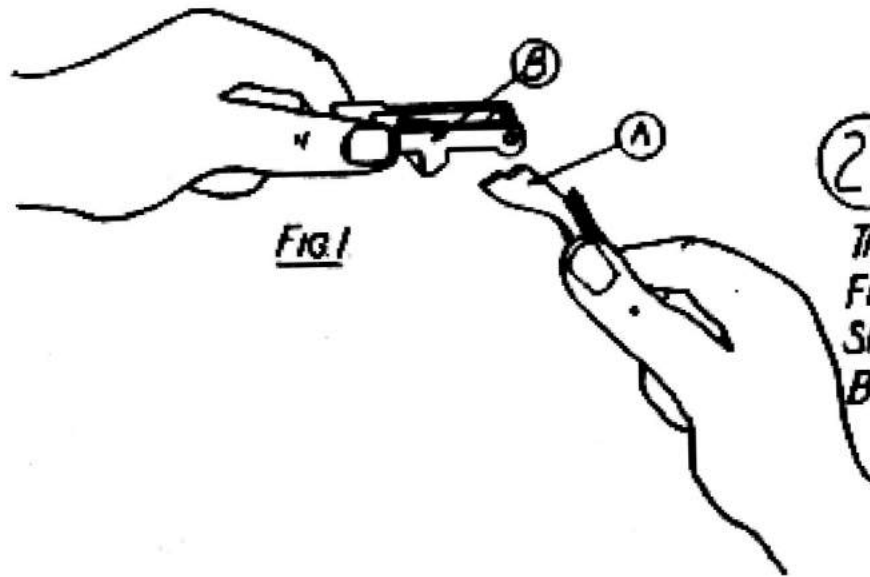

FIG. 1
21 PLACE THE EJECTOR (A) INTO THE BOLT STOP (B) AS SHOWN IN FIG. 1. PRESS THE BOLT STOP SPRING (C) DOWN FIRMLY INTO THE BOLT STOP (B).